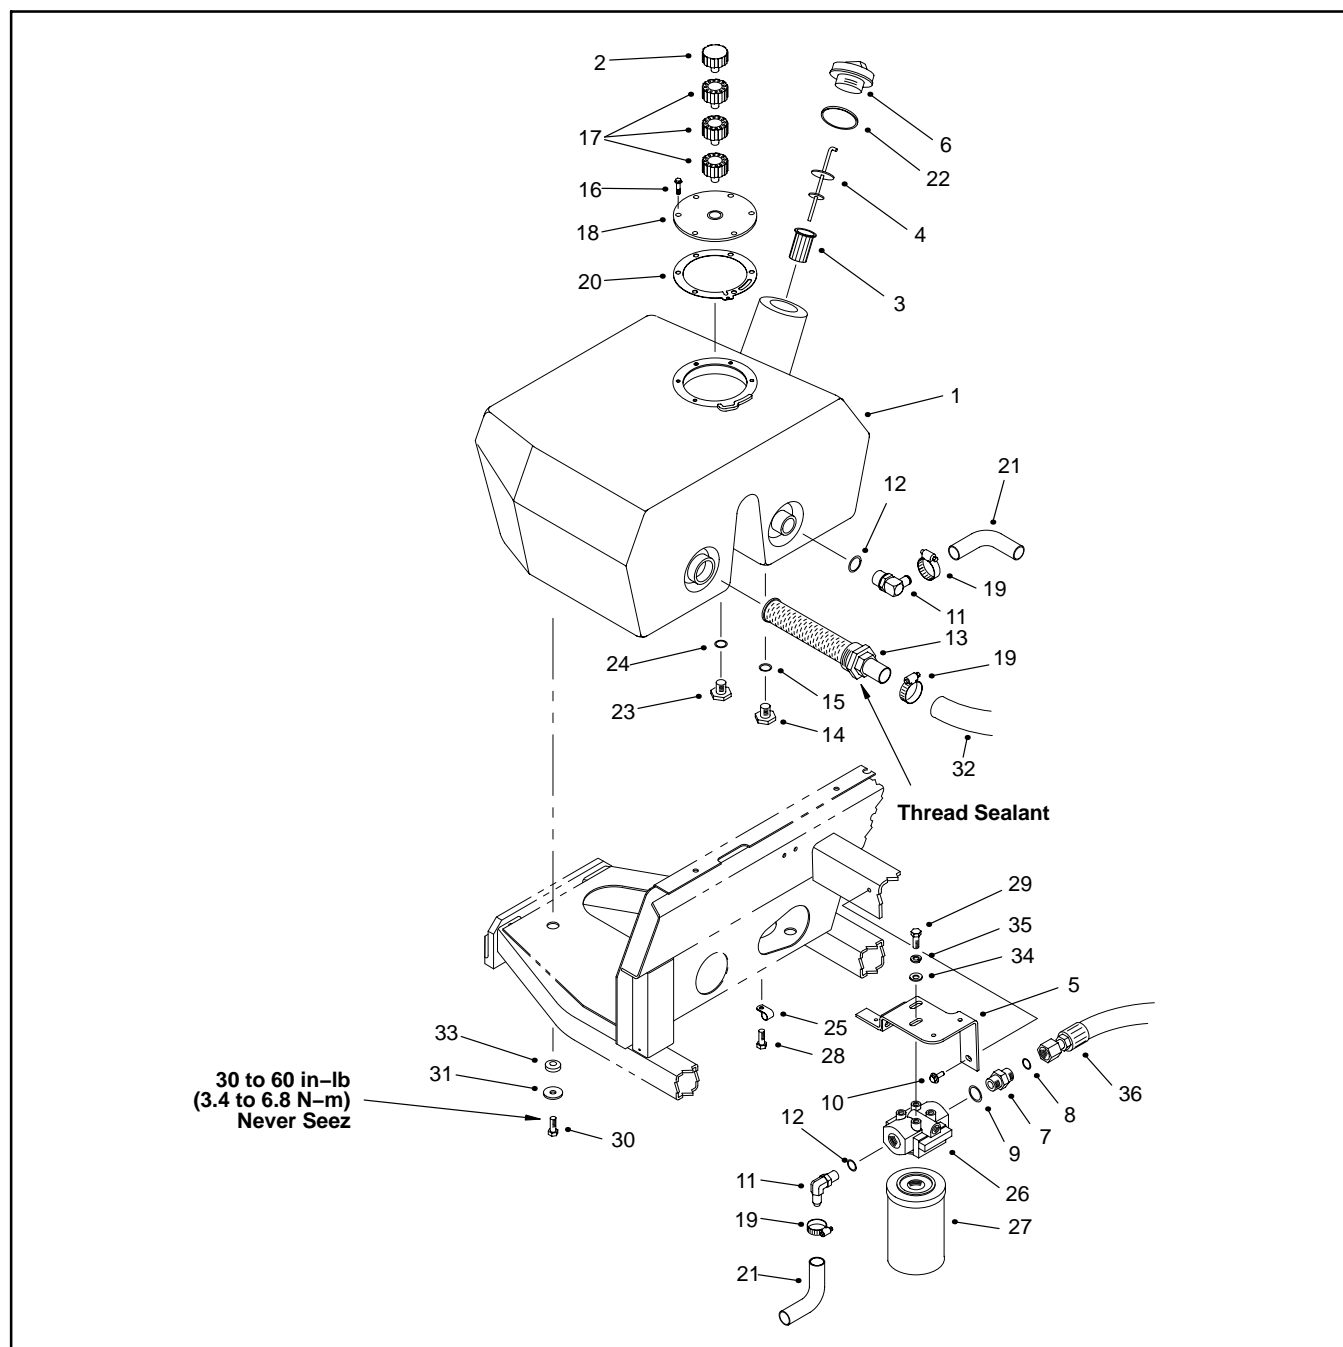

Figure 101
4. Remove oil tank (Fig. 101).
1. Install reservoir (Fig. 101).